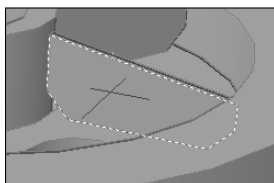

**Figure 21-18:** When you pass the cursor over a face of a solid, the dashed border confirms the face, and you can temporarily draw on or edit that face.
2. Pass the cursor over a face of a solid. A dashed border appears on the solid's face, as shown in Figure 21-18.